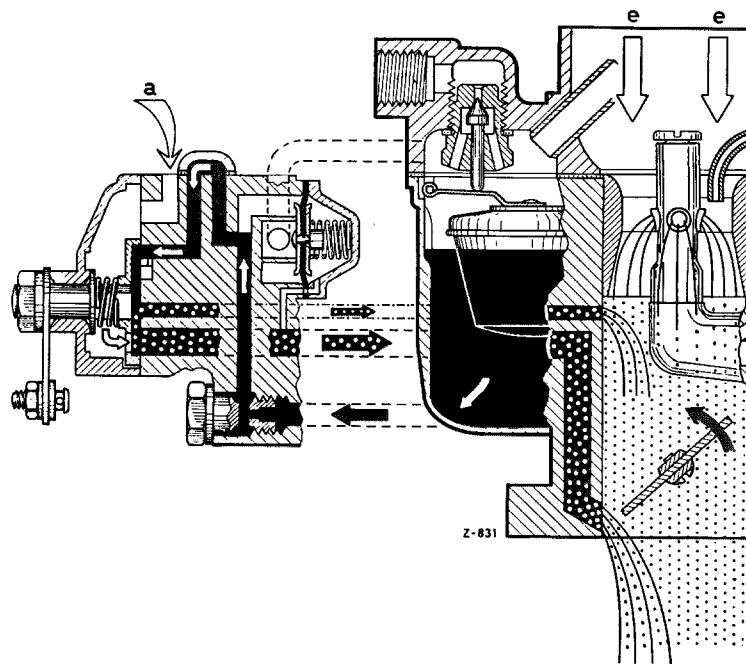

Fig. 07-0/6
If as a result of quick acceleration from low engine speed the throttle valve is opened still further, the partial vacuum suddenly drops. The starter air valve (6) which had opened immediately the engine started now closes again so that the starter system produces a rich start mixture for the change-over just as it did at starting. As soon as the engine reaches sufficient speed, the starter air valve, actuated by the partial vacuum which is increasing again, once more opens and leans out the start mixture. By this automatic action of the starter air valve the cold engine is supplied with a correctly proportioned start mixture suitable for all conditions and a satisfactory change-over to the main carburetion system is ensured when the starter knob is pulled. Fig. 07-0/6 shows the mode of action of the starter mechanism when the car is being driven away.